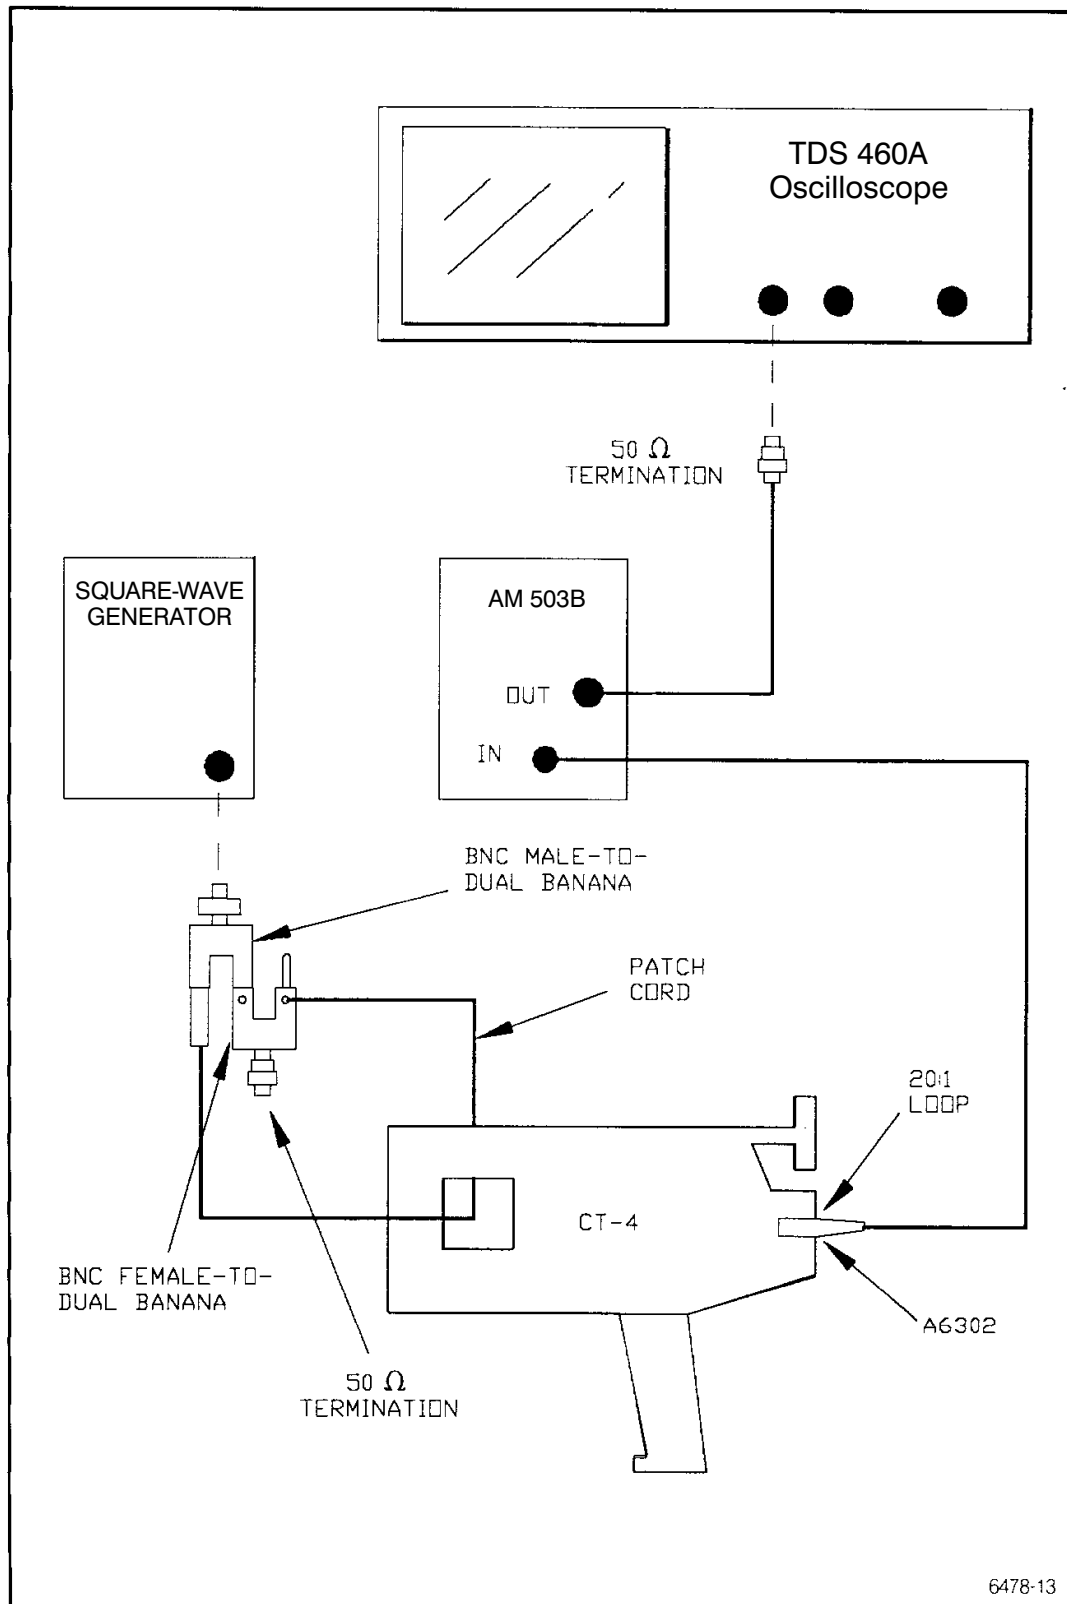

Fig. 4-1. Equipment setup for checking low-frequency response.
- a. Connect the CT-4 and test equipment as shown in Fig. 4-1.